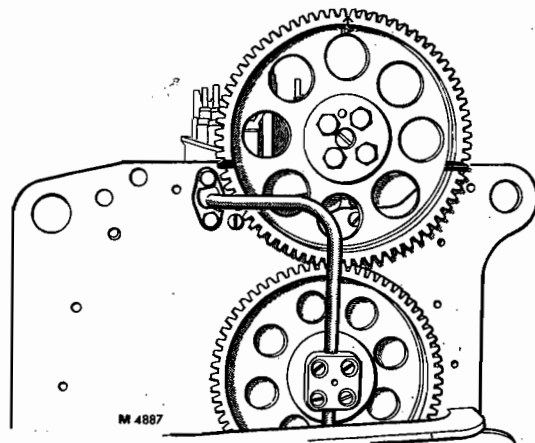

FIG. 3 CAMSHAFT GEAR TIMING MARKS
- Lubricate camshaft bearings with clean engine oil and place camshaft in position with timing marks on gear in line with top face of tappet block, Fig. 3.